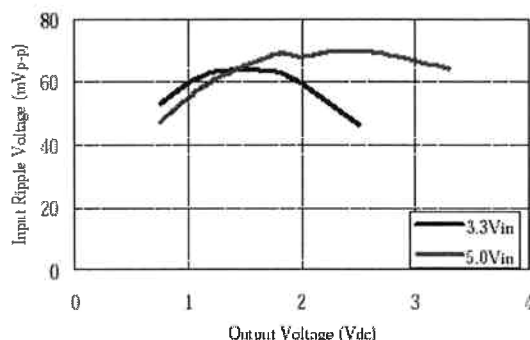

Figure 7 Input voltage ripple VS Output voltage
2. 4 $\times$ 100 μ F tantalum // 2 $\times$ 47 μ F ceramic ----- Figure 7